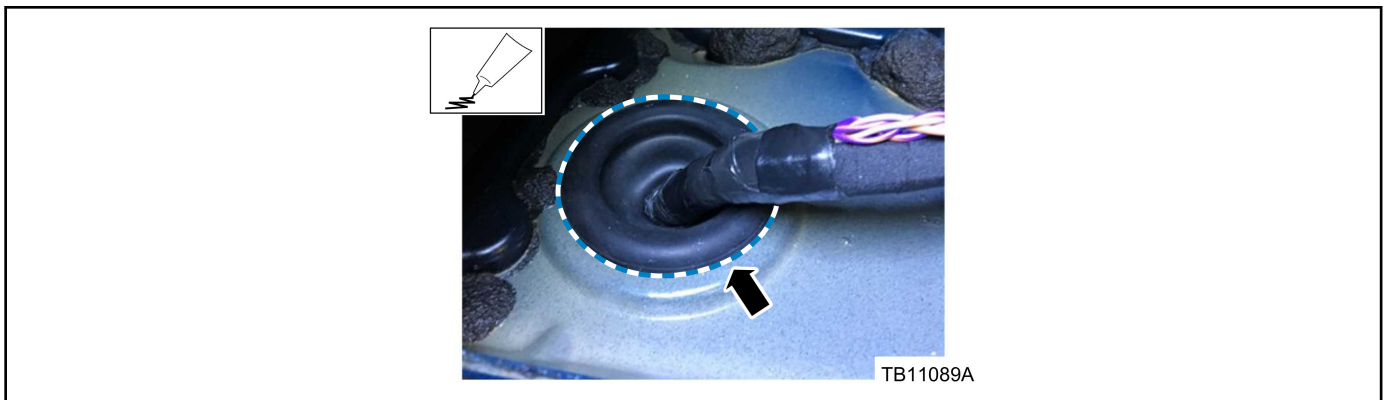

Figure 21 - Article 17-0044
- c. Make sure the grommet is fully seated and seal if necessary with Motorcraft® Seam Sealer. (Figure 21)